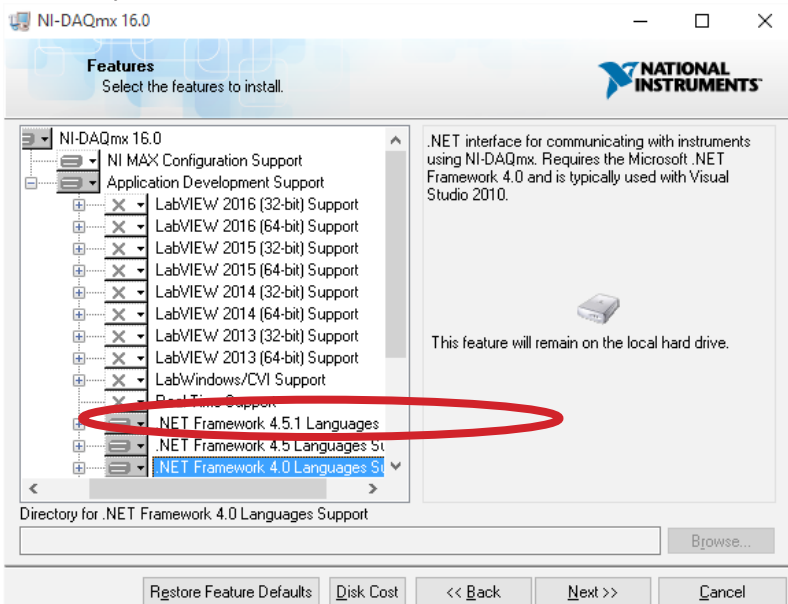

Figure 3. National Instruments NI-DAQ Software Installation
- Choose which options to install. The QCA requires installation of the **.NET Framework 4.0 Languages**. Click the X icon next to this option to change it to the Install icon (see **Figure 3**). It is not necessary to install the Examples and Visual Studio Integration items; these are optional. Click *NEXT*.